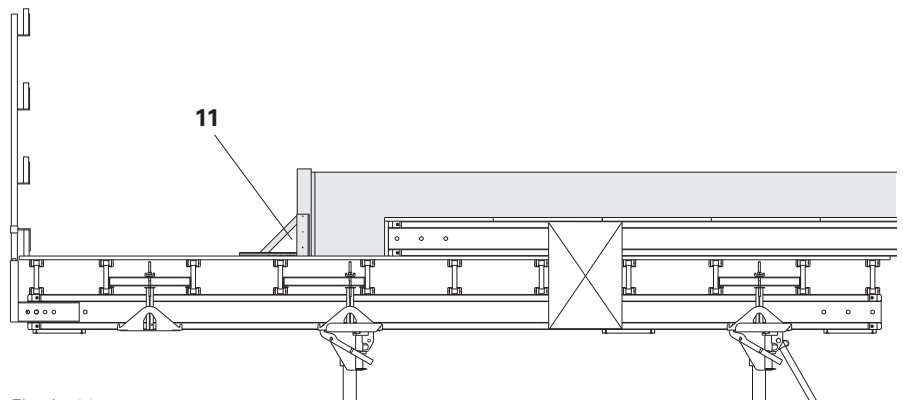

Fig. A7.02
The Stopend Angle (11) can be nailed to the plywood formlining as stopend formwork up to h = 40 cm. (Fig. A7.02)